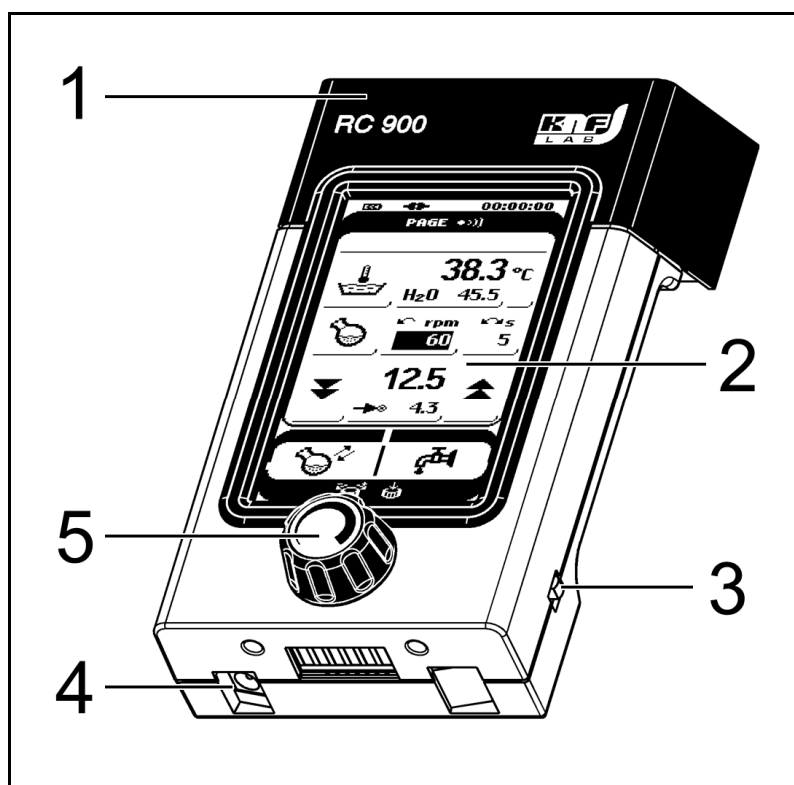

Fig. 2: RC 900 hand terminal
Settings are adjusted on the hand terminal's touchscreen (Fig. 2/2) or with the rotary knob (5).